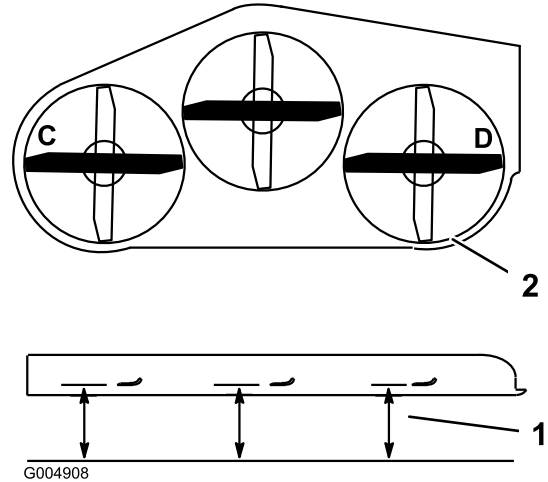

Figure 73
3. Measure at **C** and **D** locations from a level surface to the cutting edge of blade tips (Figure 73).